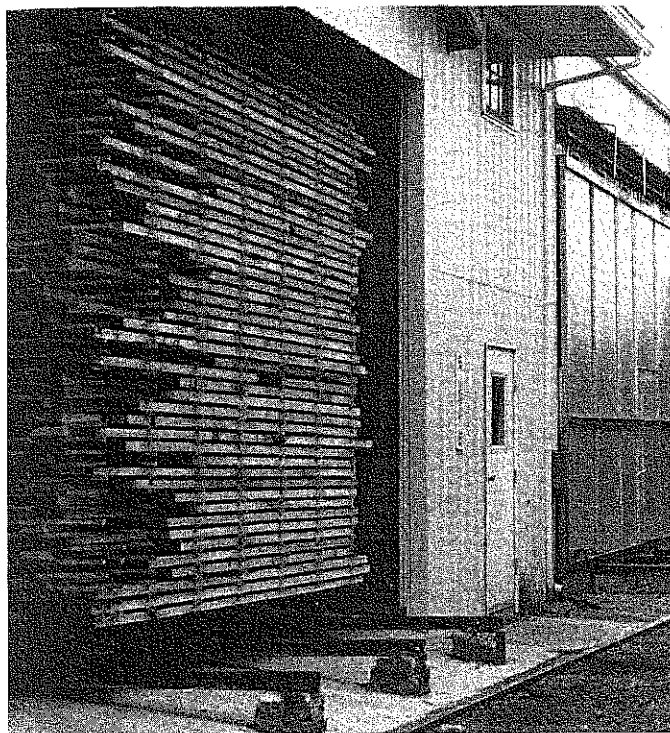

Fig. 1-11. Kiln-drying provides better humidity, air circulation, and temperature control. (Hoge Lumber Company)
**KILN-DRYING** is another method used for seasoning lumber. This process uses controlled heat to remove excess moisture. The rate of moisture removal is monitored. The lumber resulting from kiln-drying meets predetermined requirements. Kiln-drying is done by placing the lumber in a large oven called a **KILN** at temperatures usually ranging from 110 to 180 degrees Fahrenheit (F), Fig. 1-11. Humidity, air circulation, and air temperature are carefully controlled. Kiln-dried lumber has less moisture content than air-dried lumber. Lumber is often dried to 6% or less M.C. using the kiln. During the drying process, shrinking begins to occur when the free water is removed. Since there is little or no change in the size of a board until it reaches an M.C.